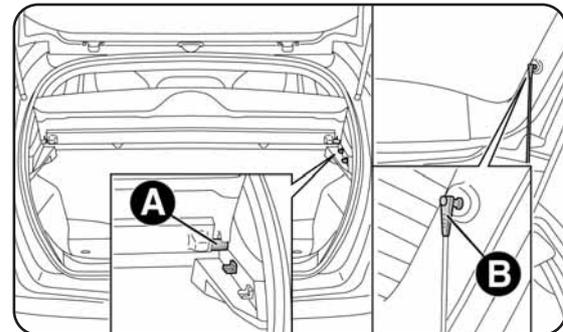

fig. 61
- release attachments A-fig. 61 (one on each side);
- release attachments B-fig. 61, rotate the parcel shelf through 90° and slide it out.